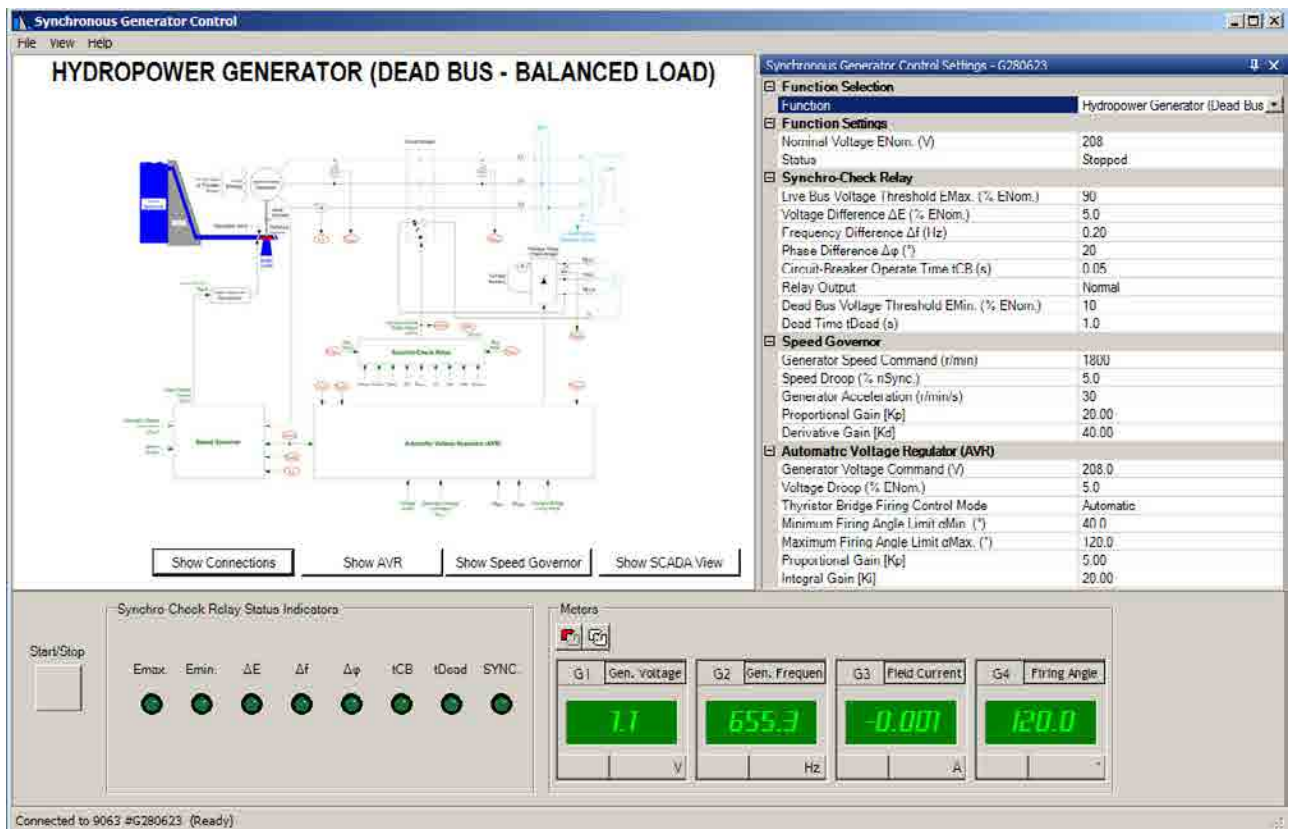

Figure 13: Synchronous Generator Control window, when the function Hydropower Generator (Dead Bus - Balanced Load) is selected.
14. With advanced functions, like the Hydropower Generator (Dead Bus - Balanced Load) function available in the Synchronous Generator Control window, there can be several buttons below the diagram of the electrical circuit, as Figure 13 shows.